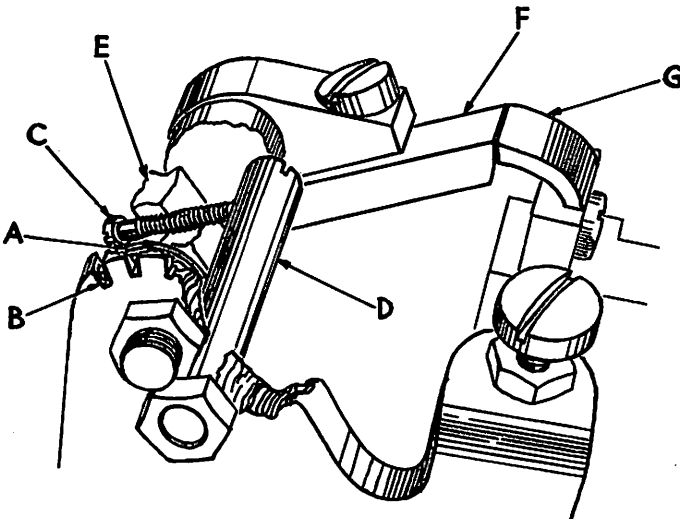

Fig. 12
The height of dog (F, Fig. 12) is properly set by adjusting screw (C) against stop pin (D) until the point of the dog (F) is flush with the top of the lever extension (G). This adjustment and the one in the preceding paragraph may seem to conflict. However, by working these two adjustments together the desired settings will be obtained.
Spring (A, Fig. 12) should be positioned in the proper notch of bracket (B) to return screw (C) against stop pin (D) during the clipping cycle when the dog (E) is free to move.